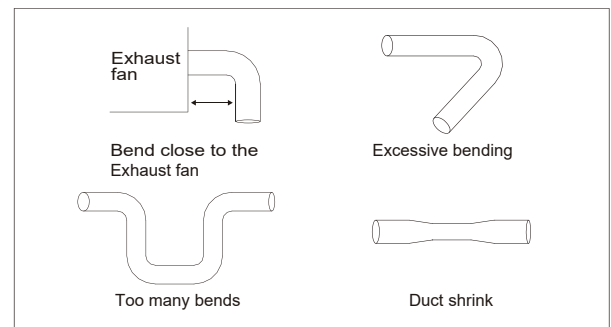

Fig 2
- Do not install the unit where ducts are configured as shown in Fig 2.